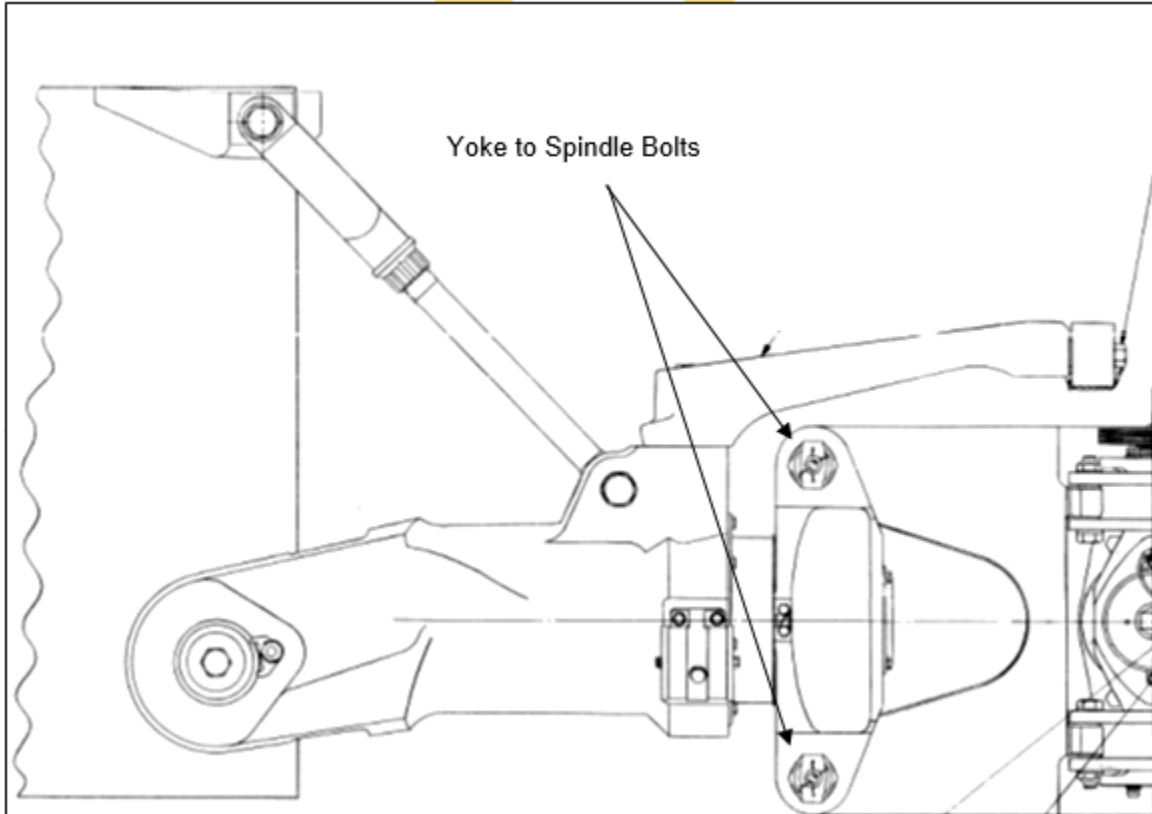

FIGURE 1 - Main Rotor Head - Bolt Locations
2. Gain access to spindle yoke bolts, total of four. (Refer to Figure 1)